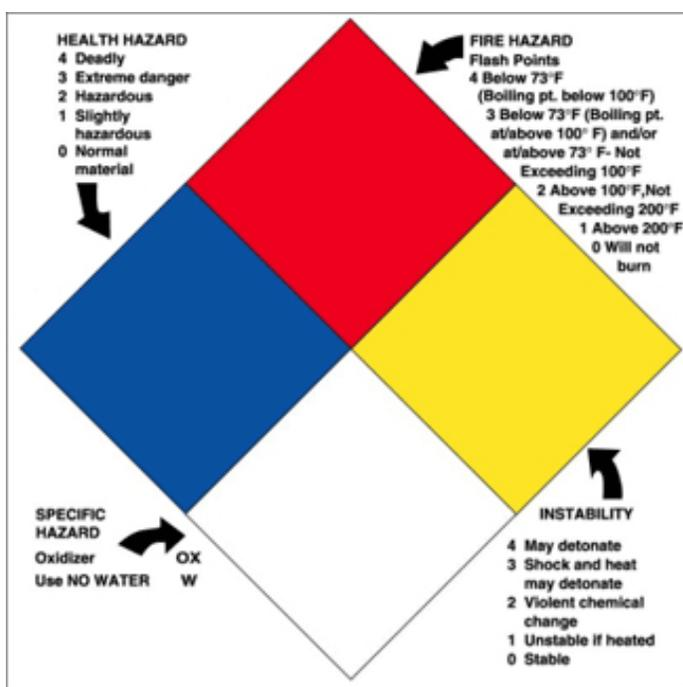

Figure 4-1: NFPA Label
- B. National Fire Protection Association (NFPA) Labels** – NFPA labels provide information similar to that found on the MSDS, but often not as detailed. However, NFPA labels are a useful tool to determine a materials' fire hazard. The red portion of the label (see Figure 4-1) displays the product's fire hazard flashpoint.